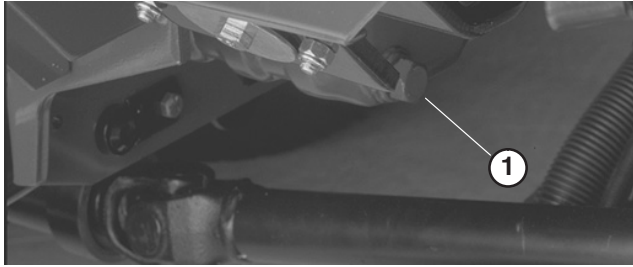

Figure 48
1. Remove drain plug (Fig. 48) and let oil flow into drain pan. When oil stops, install drain plug.